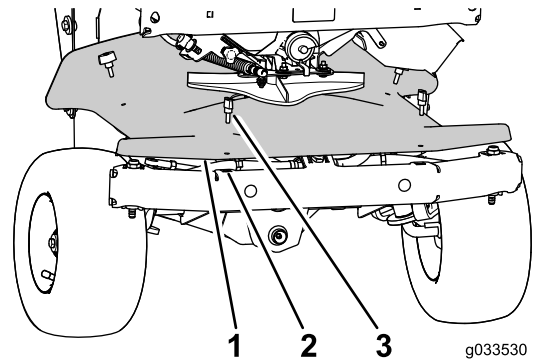

Figure 88
- A. Remove the 4 thumb screws that secure the front cover (below the impeller) to the chassis and remove the cover (Figure 88).